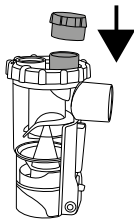

Figure 16
- In order to increase breathing resistance, you can place the PEP cap on to the expiration valve on the top section of the nebulizer (Figure 16).